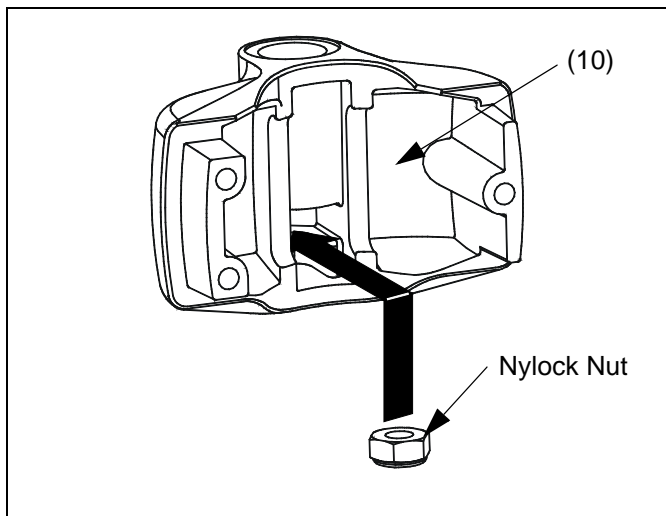

Figure 3: Insert Nylock Nut
1. Insert Nylock nut (previously set aside) crown down into front half of pole clamp. (see Figure 3)